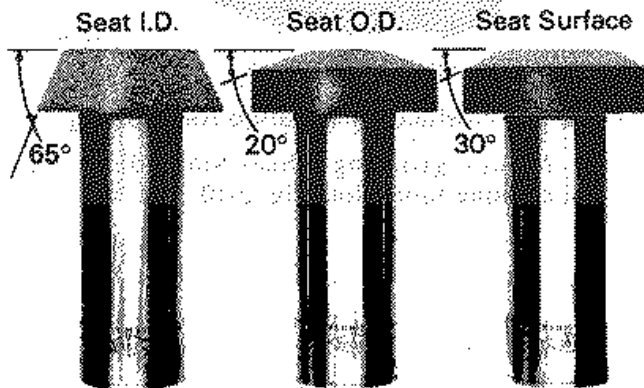

Fig.2-9-Valve Seat Grinding Wheels and Holders
1. Mount each of the three grinding wheels on its own holder and dress the 45° wheel to 65°, the 30° wheel to 20°, and the 30° finishing wheel to 30°. Fig. 2-9.